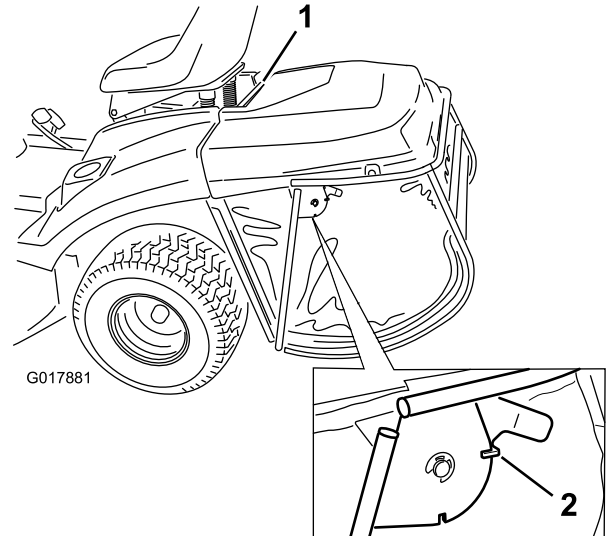

Figure 38
1. Lock the locking latch on the grass collector (Figure 38).